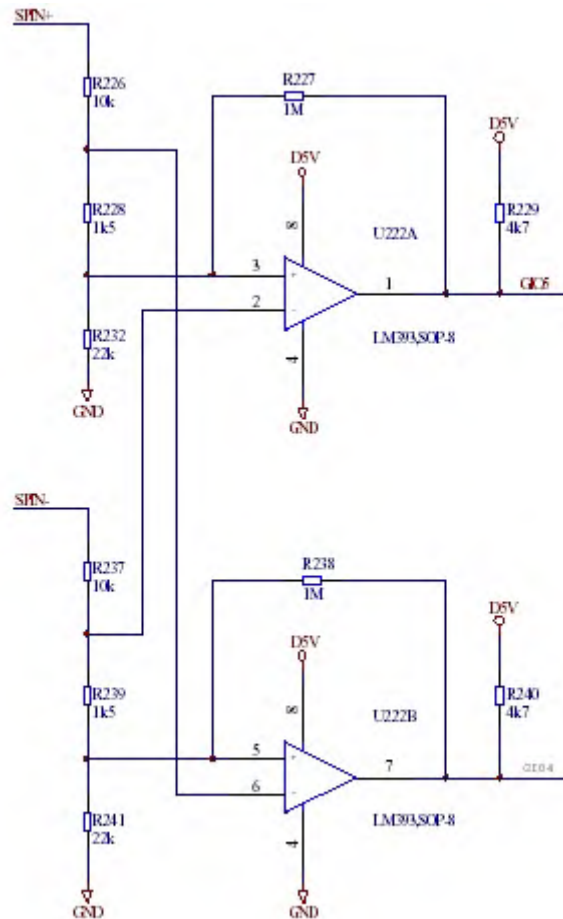

Figure 3.2.14.1 Main axis diversion judgement circuit diagram
1. Main axis diversion judgement circuit is shown as the following figure 3.2.14.1: